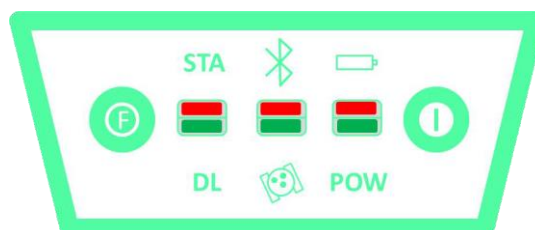

Fig. 2-13 Six Lights Blinking at the same time
- Keep holding I key and F key until the 6 lights blink at the same time (Fig. 2-13), then release the keys.